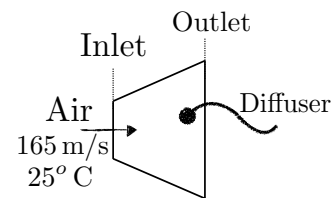

Figure 1: Air Flowing Through a Diffuser
2. Air enters the diffuser shown in Figure 1 with a velocity of 165 m/s. It is known that the ratio of specific heats of air is 1.4 and that its gas constant $R = 287 \text{ J/kg}\cdot\text{K}$.